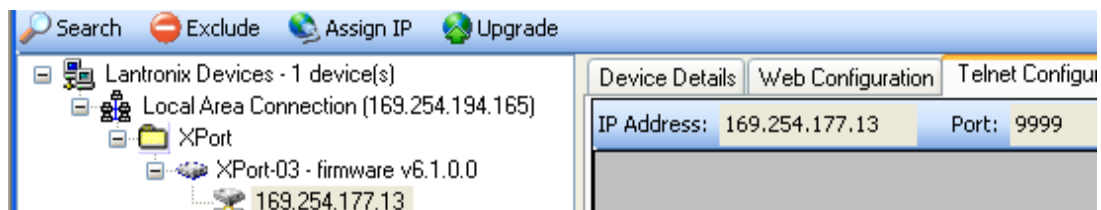

Figure 14 Device Installer - Telnet Configuration
- Click the “Telnet Configuration” tab and click “Connect” (Figure 14). Leave the IP address and port as is. Afterwards, press Enter to enter Setup Mode. This will list the various parameters set up in the Serinus and will give you menu options to change them.